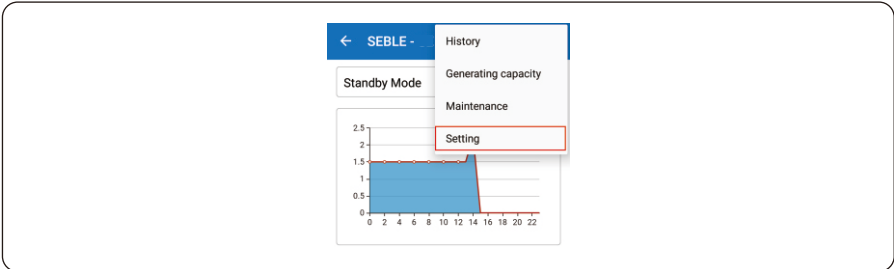

Figure 5.18 APP homepage setting
Step 2 Click the Extension key, and select Setting in the prompt manual, as shown in Figure 5.18.